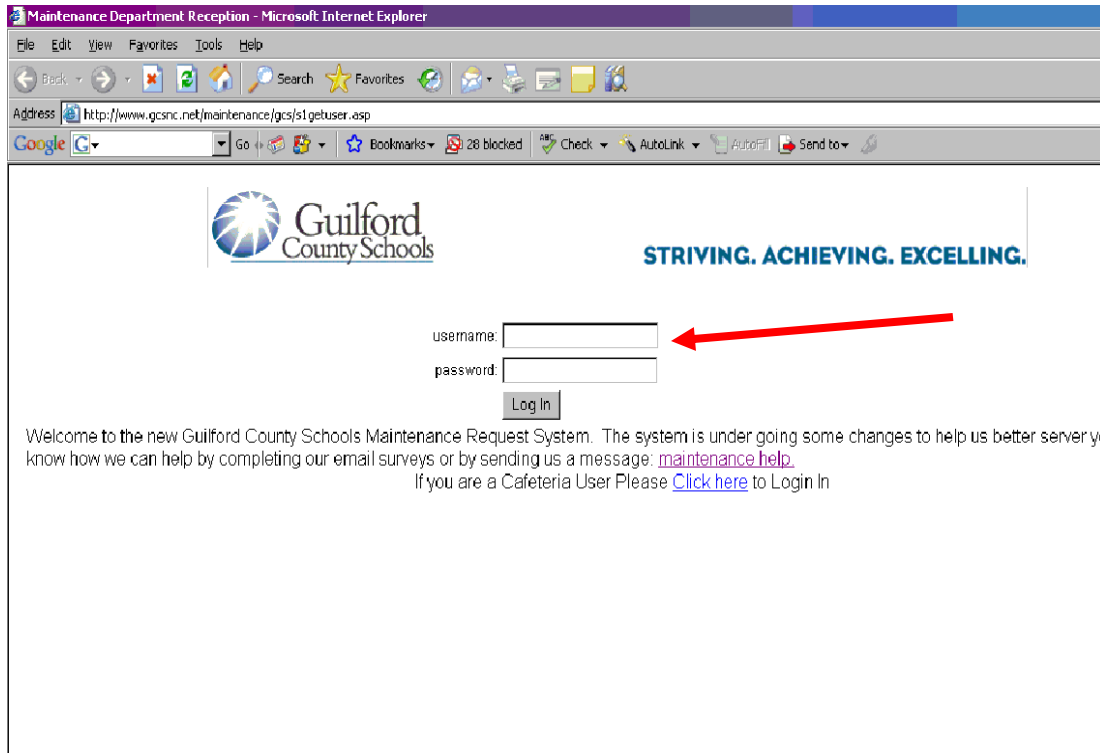

Figure 8 - Login Page
3. Log In Screen. Enter your login name in the username text box. Enter your password in the password box (See Figure 8.)